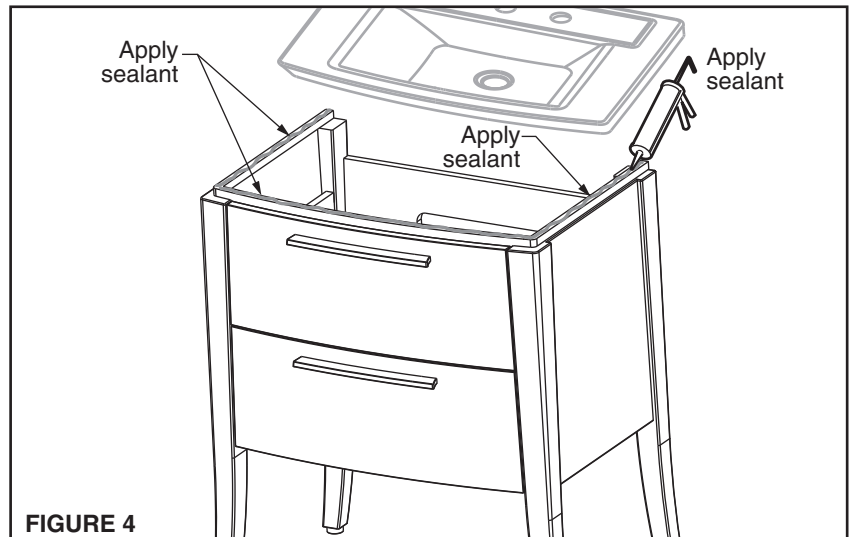

FIGURE 4
5. Apply a 1/8" (3mm) thick bead of water-based caulk around the top edge of the furniture (Figure 4) and place top on furniture. Refer to the first page regarding caulk type. Allow caulk to dry before proceeding.